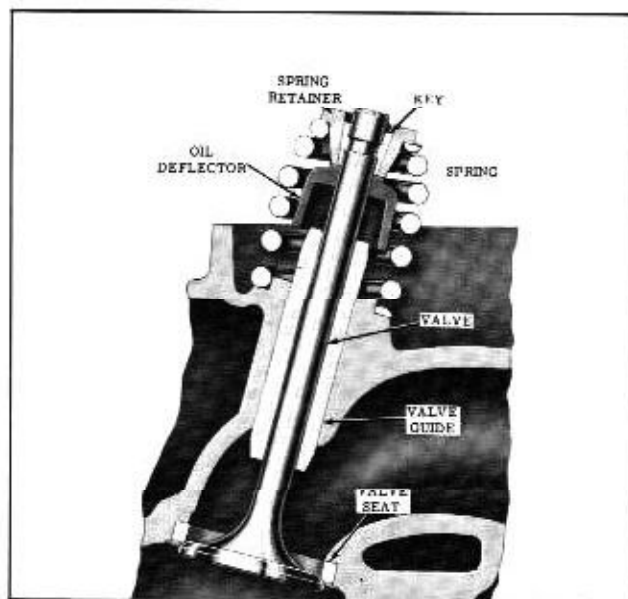

Fig. 8-18 Valve Assembly
3. Remove valve spring retainers and springs. (Fig. 8-18)